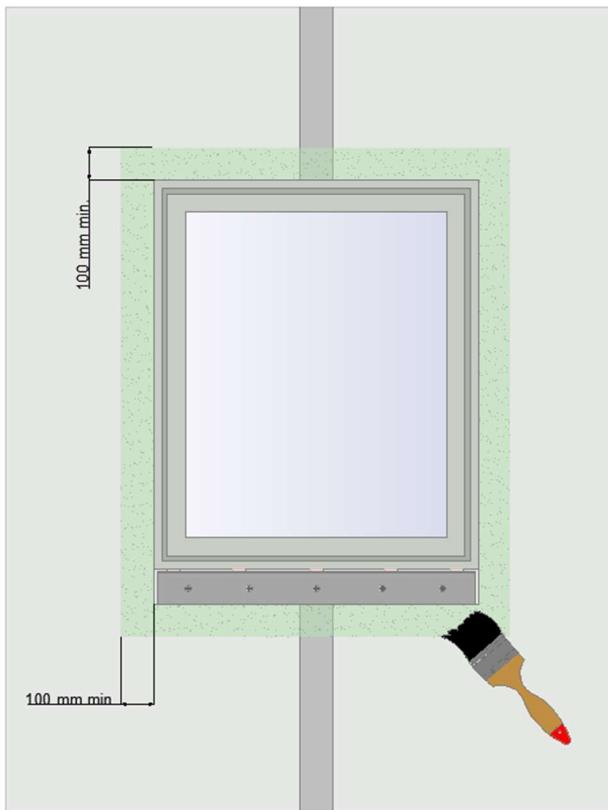

Figure 1.
- Apply the primer using a brush or roller to the whole of the final bonded area (Figure 1).